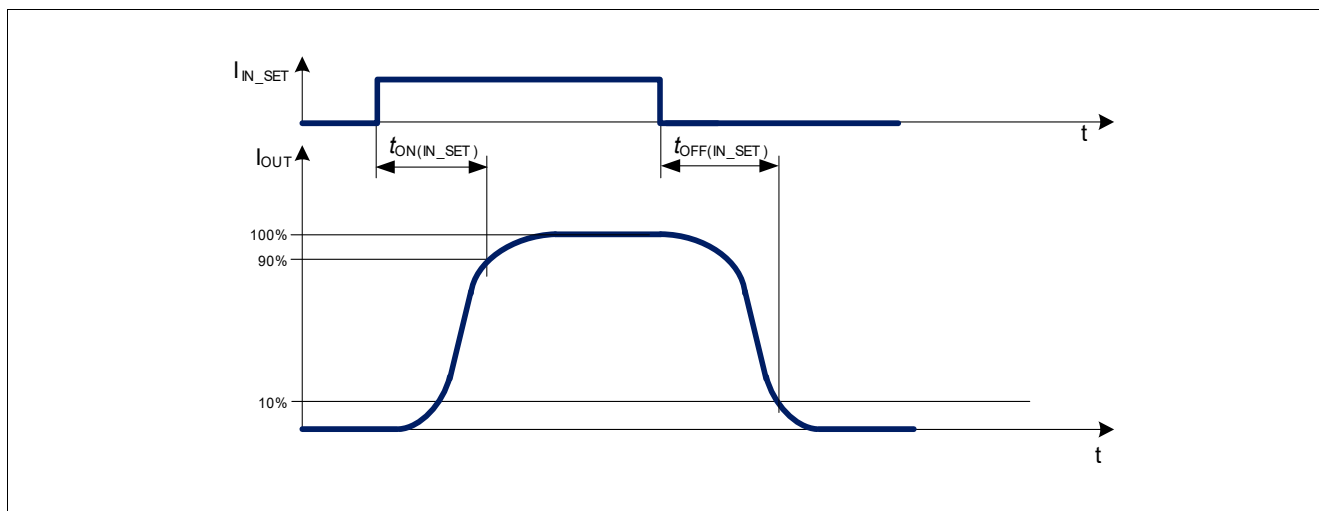
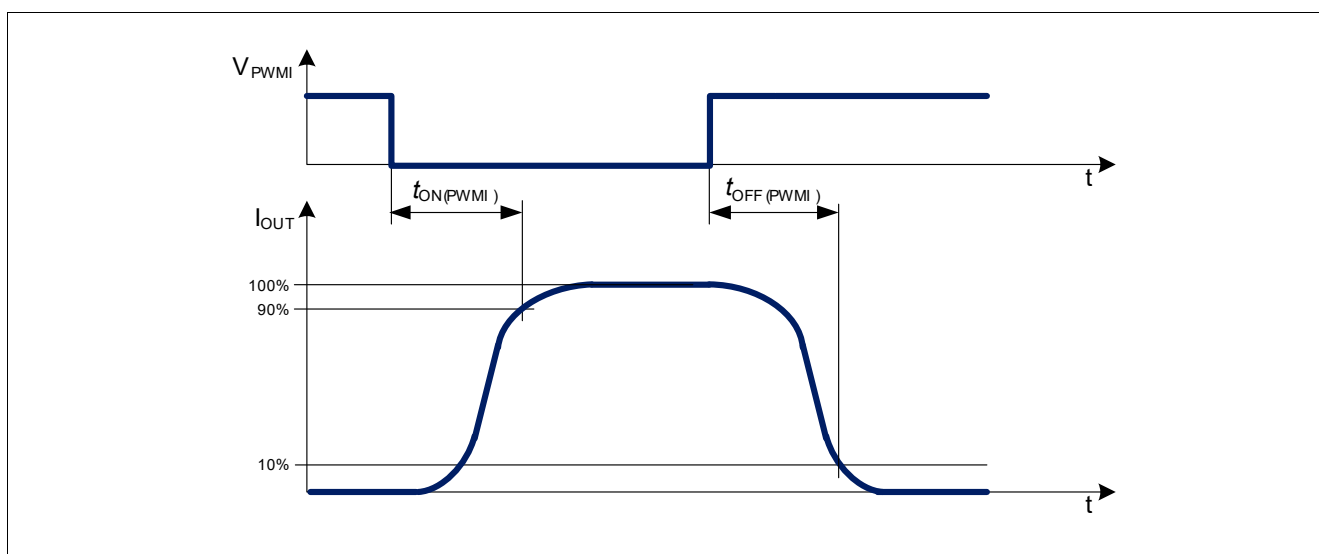

Figure 14 IN_SET turn on and turn off delay timing diagram
Figure 16 PWMI turn on and turn off timing diagram
In the following diagram (Figure 14, Figure 16) the influences of inputs on output activation delays are shown.
2) Refer to **Figure 14**
4) Refer to **Figure 16**